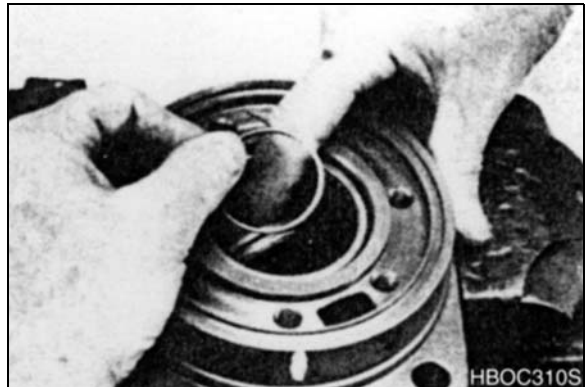
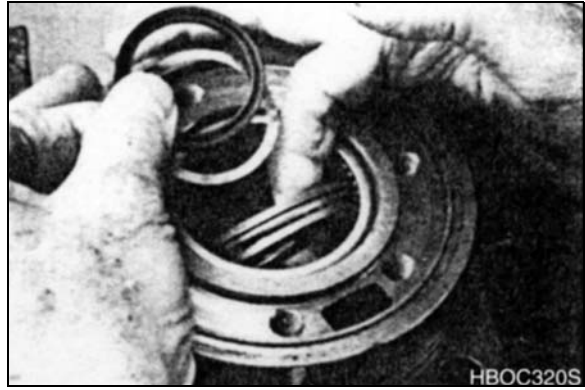
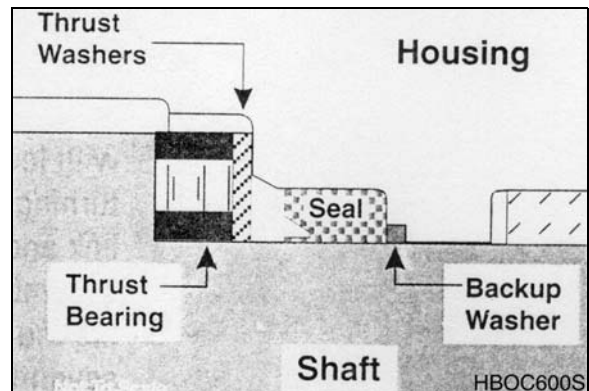

Figure 45
Figure 46
Figure 73
Large Frame, Series MB and ME Torqmotor™ housing (18) that did not require replacement of the bearing package will require that the two "captured" thrust washers (14) and thrust bearing (15) be unseated and vertical to the counterbore and the new backup washer (17), new backup washer (25), and new seal (16) be worked around the thrust bearing package and placed into their respective counterbores. The seal lip must face out of the seal counterbore and toward the inside of Torqmotor™ (see Figure 73). Be sure the thrust bearing package is resealed correctly after assembly of the seal and backup washer. See Figure 45 and Figure 46.